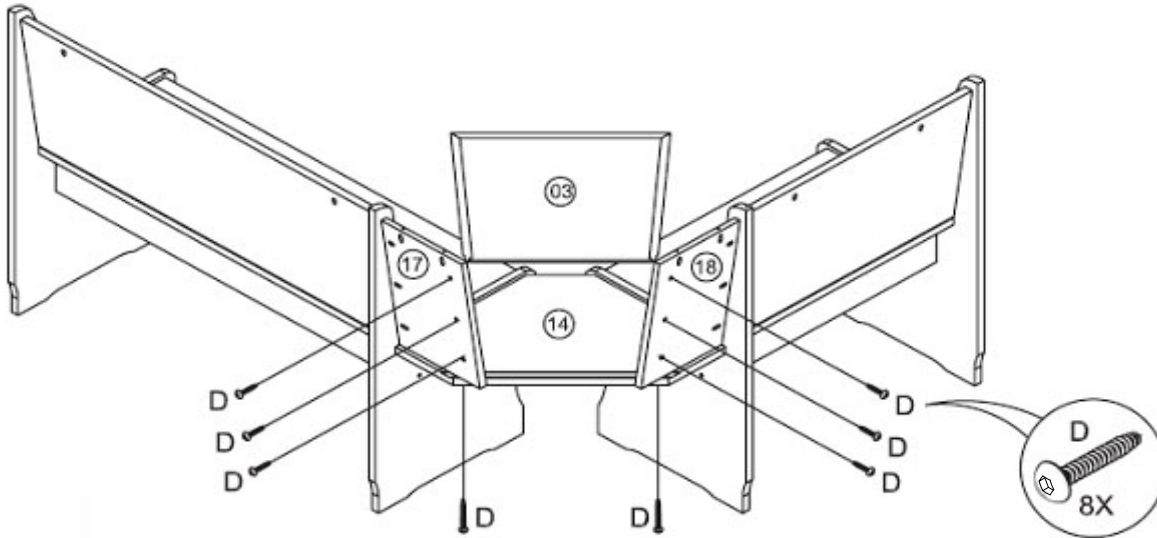

FIGURE 6
- a) Refer to Figure 6 - Fit Center Back Panel (3) between Corner Right & Left Back Panel (17 & 18) to sit on (14), and use Screw (D) to fasten (3) to (17 & 18). Do not tighten the screws completely until all 6 screws are in place.